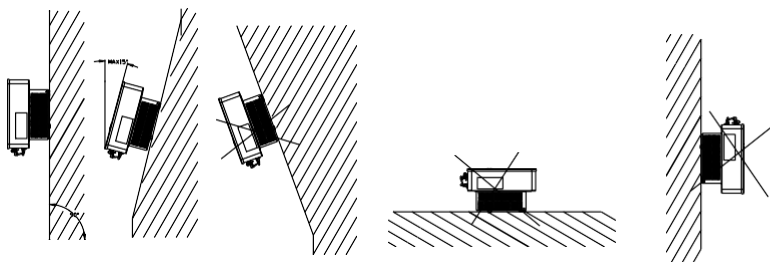

Figure 4.1 Mounting method
- ① The equipment can be installed indoor or outdoor.
- ② Please install the equipment under the guidance of Figure 4.1. Vertical installation on floor level is recommended. Mount vertically or tilted backwards by max. 15°. Never install the inverter tilted forwards, sideways, horizontally or upside down.
- ③ Considering convenience for maintenance, please install the equipment at a position in parallel with line of sight.
- ④ When mounting the inverter, please consider the solidity of wall for inverter, including accessories. Please ensure the Rear Panel tightly.